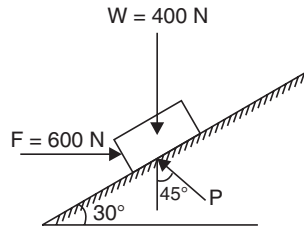

Fig. 2.51
**Example 2.31.** The clock shown in Fig. 2.51 is acted on by its weight  $W = 400 \text{ N}$ , a horizontal force  $F = 600 \text{ N}$  and pressure  $P$  exerted by the inclined plane. The resultant  $R$  of these forces is parallel to the incline. Determine  $P$  and  $R$ . Does the block move up or down the plane?